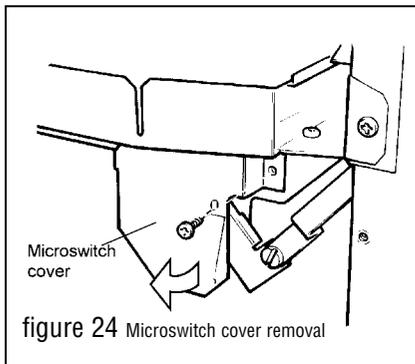

figure 24 Microswitch cover removal
10.1 To remove the ignition microswitch (Figures 24 & 25) The ignition microswitch is stamped V4NT9C4YC
- 10.1.2 Detach the microswitch cover by removing one screw and pulling clear of the location lug (see figure 24).
10.2 To remove the gas shut-off microswitch (Figures 24, 25 & 26)
- 10.2.2 Detach the microswitch cover by removing one screw and pulling clear of the location lug (see figure 24).